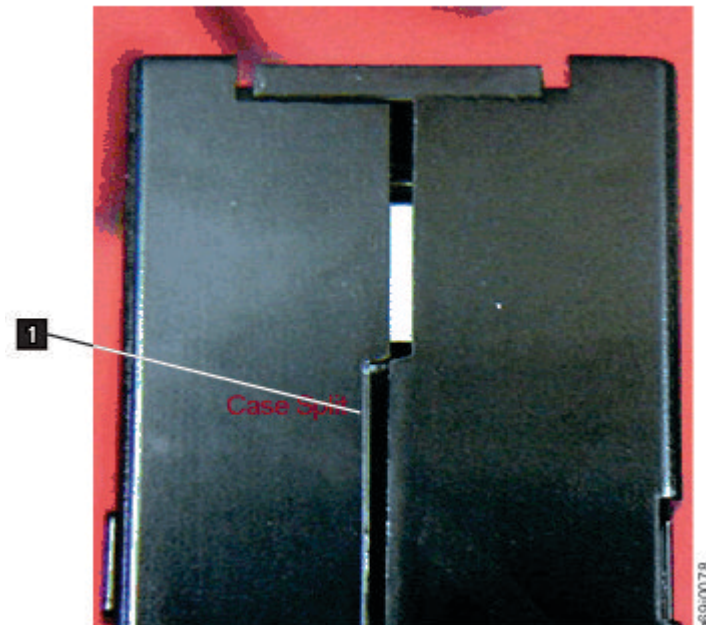

Figure 90. Checking for gaps in the seams of a cartridge
- Inspect the rear of the cartridge (the part that loads first into the tape load compartment) and ensure that no gaps appear in the seam of the cartridge case. . If gaps appear in the seam (see Figure 90 on page 165), the leader pin might be dislodged.